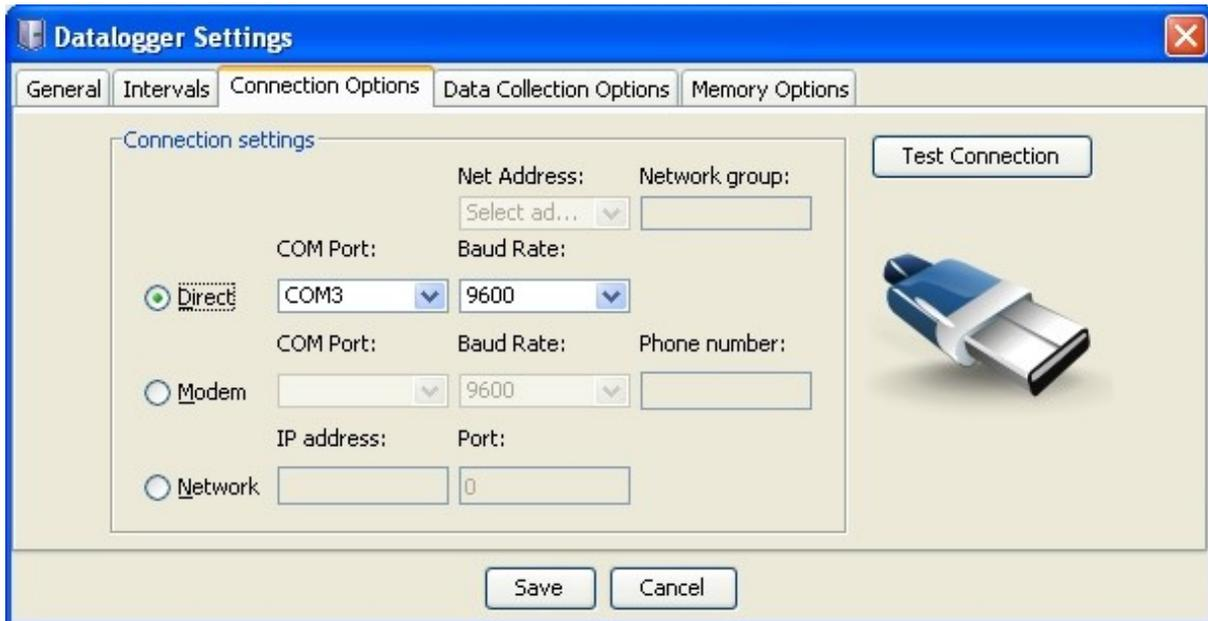

Figure 19 - Connection Options
- 3) Click on the “Connection Options” tab to display the settings required to establish a datalogger connection (Figure 19).